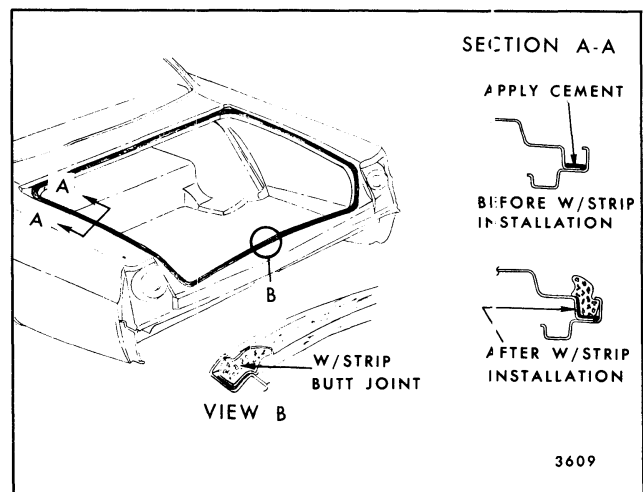

Fig. 7-30-Rear Compartment Weatherstrip - All Styles Except "X-17" Style
1. Separate "butt" ends of weatherstrip at bottom rear of opening (Figs. 7-30 and 7-31).
2. Using flat-bladed tool, such as sharp bladed putty knife, carefully cut cemented bond of weatherstrip from outer surface of gutter (Figs. 7-30 and 7-31). Then, with a narrower sharp tool, such as a wood chisel, cut cemented bond of weatherstrip from bottom of gutter around opening and remove weatherstrip.
strip and outer surface of gutter completely around opening to assure a watertight seal (Figs. 7-30 and 7-31).